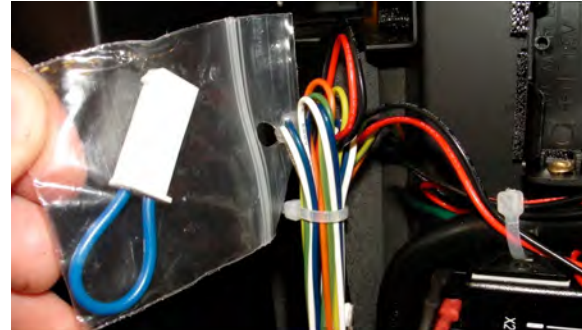

Figure 21.
2). Remove the bag containing the Jumper Cable from the wiring harness connected to the controller as shown in Figure 21.
When covering the upper metal portion of the fireplace, (as shown, Fig.21) with a non-combustible material, Please **Note:** The decorative facing materials may be subject to temperatures in excess of 250° F. This should be considered when selecting facing materials.